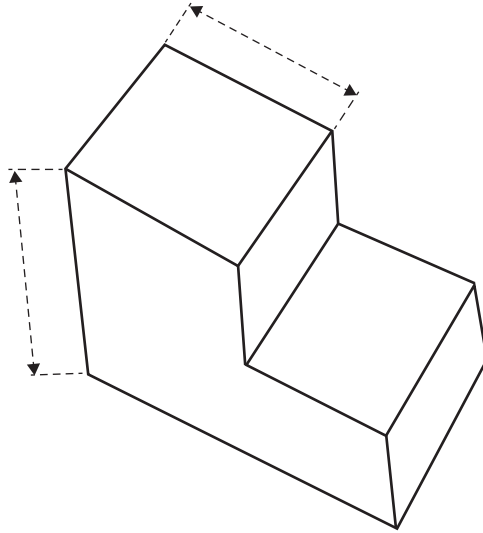

Figure 4
- a. On Figure 4 below, only two of the six dimension lines are shown.